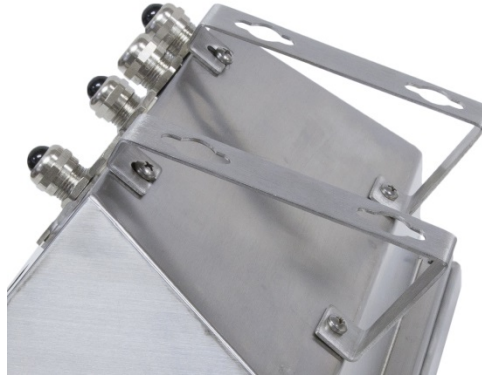

Figure 2-12: Attaching the Wall-Mounting Brackets
1. Bolt the two brackets to the bottom of the enclosure using the four M5 screws included with the terminal. The brackets should be attached as shown in Figure 2-12.